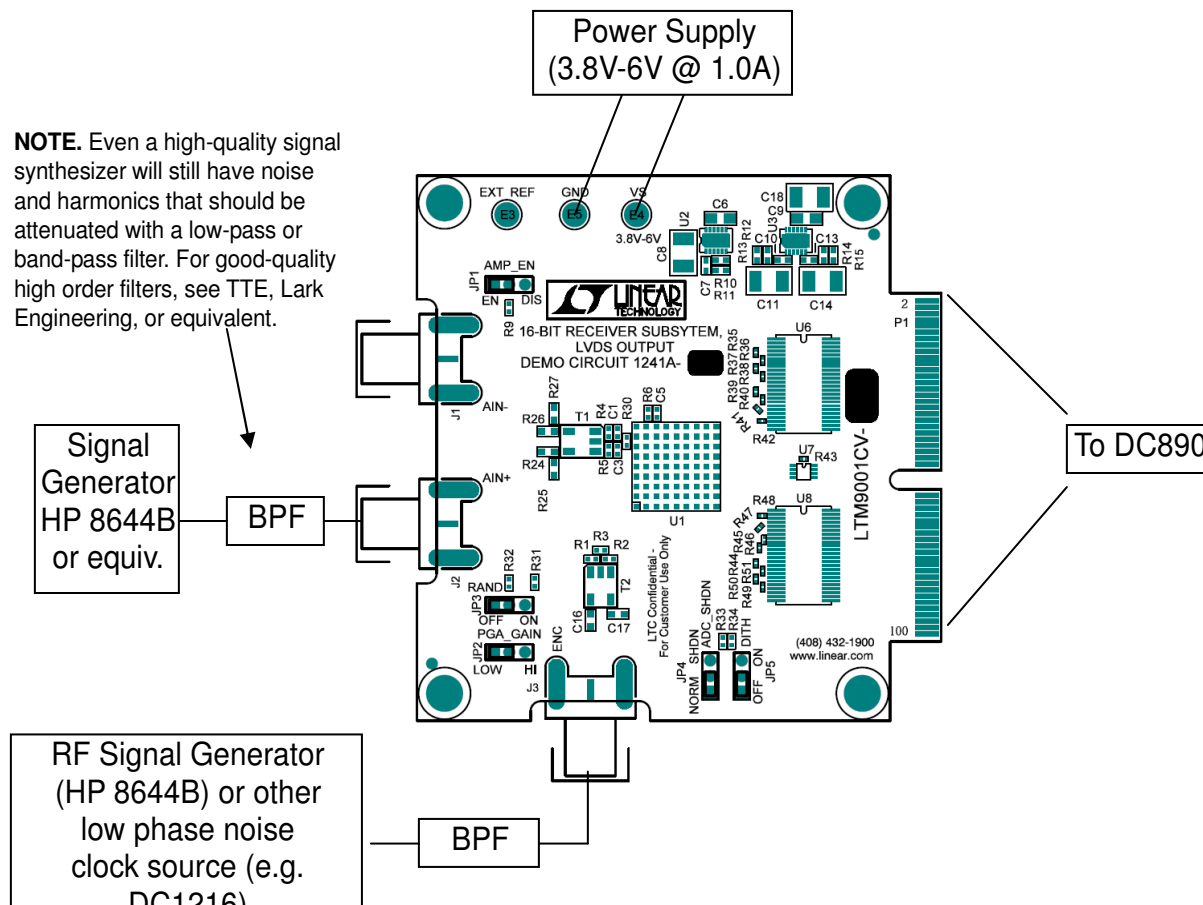

Figure 1. Proper Evaluation Equipment Setup
Validating the performance of the LTM9001 is simple with DC1241, and requires only an input source, a clock source, a computer, and a lab power supply. Refer to Figure 1 for proper board evaluation equipment setup and follow the procedure below:
1. Connect the power supply as shown in Figure 1. There are on-board low-noise voltage regulators that provide the three supply voltages for the LTM9001. The entire board and all components share a common ground. The power supply should still be a low-noise lab power supply capable of supplying at least 1 Amp.